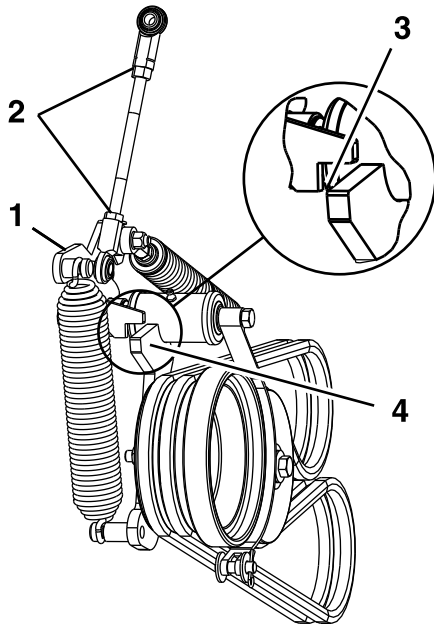

Figure 9
12. Loosen the jam nuts and adjust linkage until the top of the idler arm is aligned with the bottom of notch on tension arm as shown in Figure 9.